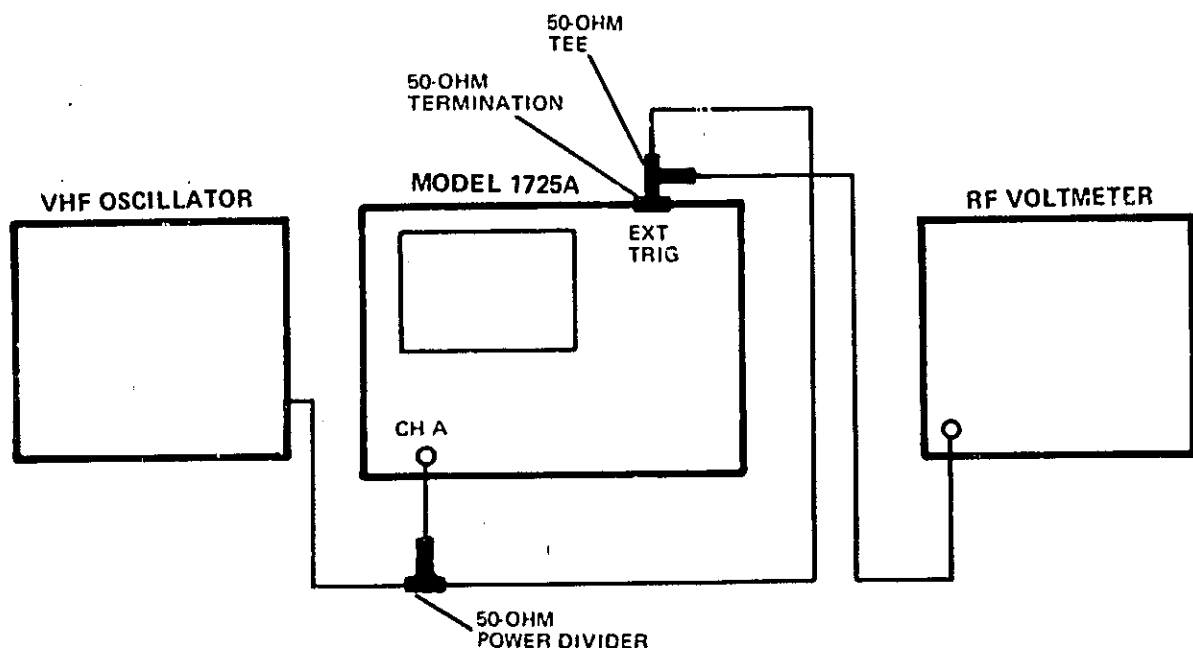

Figure 5-6. Delayed Triggering Test Setup
s. Connect equipment as shown in figure 5-6.